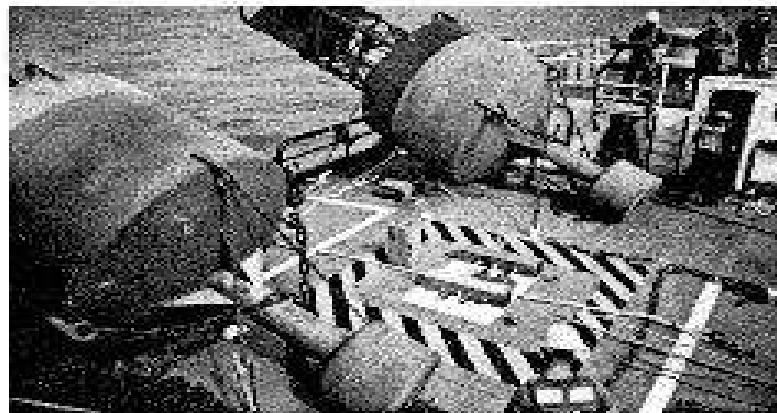

Fig. 8-2 Gripped down buoys
- d It is important that all buoys are properly secured. They must be prevented from moving both athwart ships, and fore and aft. With inexperienced personnel there is a tendency to be content with only securing the buoy downward to the deck. The result is that the gripes lead almost vertically from the buoy and there is only frictional resistance to movement of the buoy along the plane of the deck. All loads must be secured so opposing gripes prevent fore and aft and sideways movement of the load. It is better to spend time for adequate securing before going to sea than to attempt the dangerous job of securing a shifting deck load (See **Fig. 8-2.**)
Note: In Figure 8-2, only one gripe chain is shown. This is incorrect procedure.